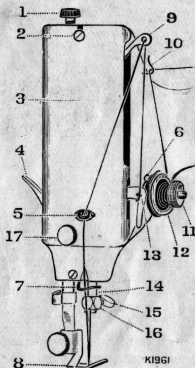
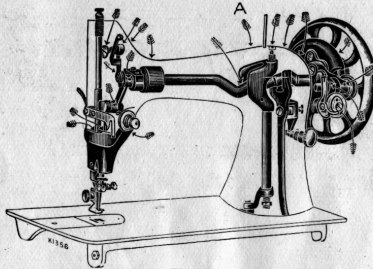

Fig. 5.
Fig. 15.
(See Fig. 5).
Loosen the balance wheel and place a reel of thread on the spool pin. Pass the end of the thread through the wire guide (10, Fig. 5), then into the lower eyelet (5) of the thread guide from below, and into the notch (2) at its top. Now thread the bobbin by passing the thread through the hole in its left disc from the inside, and with the left hand press it on to the bobbin winder spindle (1) and hold. Then with the right hand, turn the small pulley (6) until the hole in the right disc of the bobbin is engaged by the pin in the spindle shoulder. Press the pulley against the ledge of the balance
Raise the take-up lever (9, Fig. 5) to its highest point by turning the balance wheel towards you, and lift the presser foot; then move the material back and to the left, and sever the threads by passing them over the thread cutter above the presser foot. Leave the ends of the threads a few inches long under the presser foot.
For ordinary family sewing it is seldom necessary to change the pressure on the material. If sewing fine silk or flimsy material, lighten the pressure by giving the thumb screw (1, Fig. 5) two or three turns upwards. If it be found necessary to increase the pressure, give the thumb screw a few turns downwards.
All moving parts in contact must be covered with a film of oil **and not allowed to become dry.** Oil should always be applied at the points indicated by arrows in Figs. 15 and 16, a drop of oil being sufficient at any place. To oil the needle-bar mechanism, remove the face plate (3, Fig. 5) by unscrewing the knurled screw (17, Fig. 5) and loosening the small screw (2, Fig. 5). **It is most important that oil should be applied at the point marked "A" (Fig. 15) when the take-up lever (9, Fig. 5) is at its lowest point.** When oiling, insert the oil can spout well into the oil holes. Apply a drop of oil to the small piece of felt lubricating the oscillating hook and to the rollers at the right of the hook shaft. There are also two holes in the hand attachment to which oil should be applied occasionally.
The thread take-up spring (6, Fig. 5) being broken.
**Stitches Looping.**—This is regulated by the tensions (see page 12). See that both the bobbin case and the needle are properly threaded, and that the thread used is of good quality and the correct size for the needle (see Table on inside of back cover). See that the thread take-up spring (6, Fig. 5) is not broken.